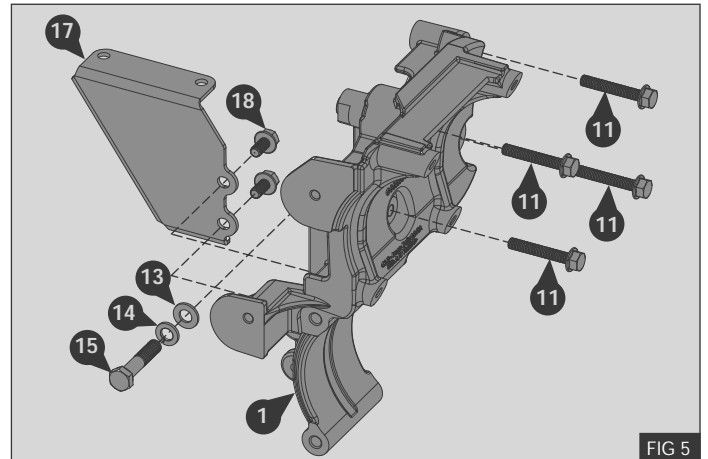
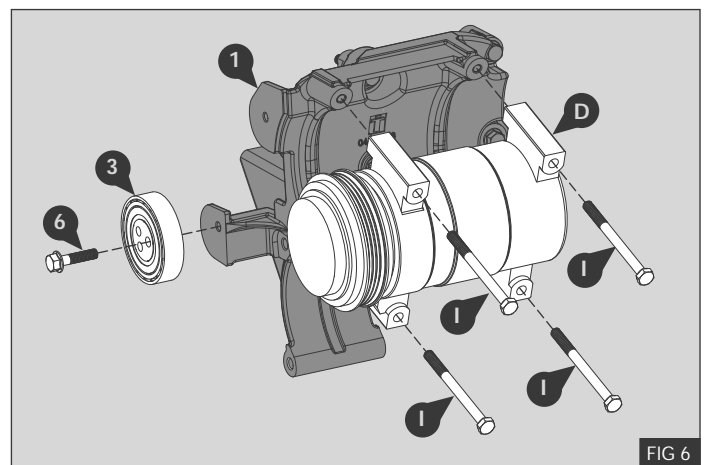

FIG 5
FIG 6
1. Secure the compressor mount bracket (1) to the engine using 4 x M8 x 50 bolts (11) and 1 x M10 x 50 bolt (15) with spring washer (13) and flat washer (14) - Fig 5
2. Hand tighten bolts (11) and (15) then Torque in the following sequence :
- a Torque M10 x 50 bolt (15) to 53Nm
- b Torque M8 x 50 bolts (11) to 35Nm
3. Fit the supplied support bracket (17) to the mount bracket (1) with bolts (18) and original sump bolts (F) then Torque bolts in the following sequence :
- a Torque bolts (F) to 35Nm
- a Torque bolts (18) to 35Nm
4. Secure the original air conditioning compressor (D) to the mount bracket (1) using the original bolts (I) - Fig 6
5. Torque bolts (I) to 22Nm
6. Loosely fit the idle pulley (3) to the mount bracket (1) with bolt (6) - Fig 6